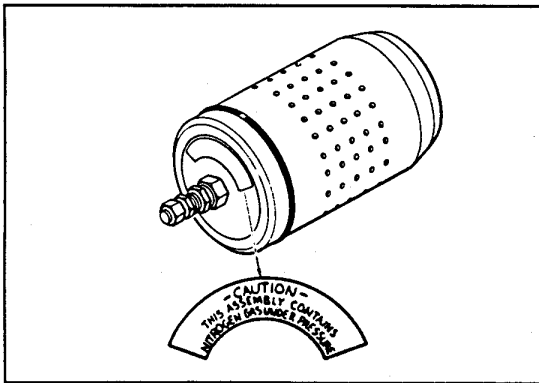

Figure 3.
8. Verify that the CAUTION sticker shown in Figure 3 is attached to the accumulator chamber. This sticker must be in good physical condition and its contents legible. Replace if worn or damaged.